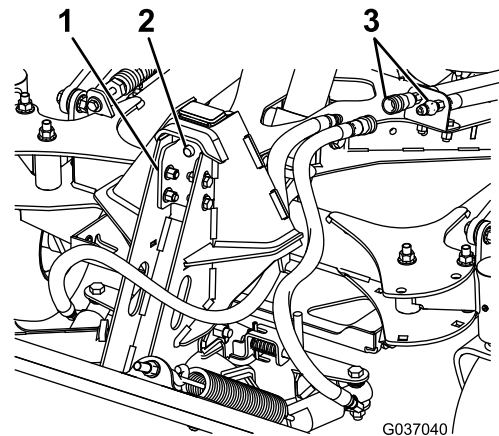

**Figure 7**
- Ensure that the plow is sitting upright, with the kickstand lowered (Figure 7).
- Slowly drive forward until the A-frame coupler contacts the plow coupler (Figure 7).